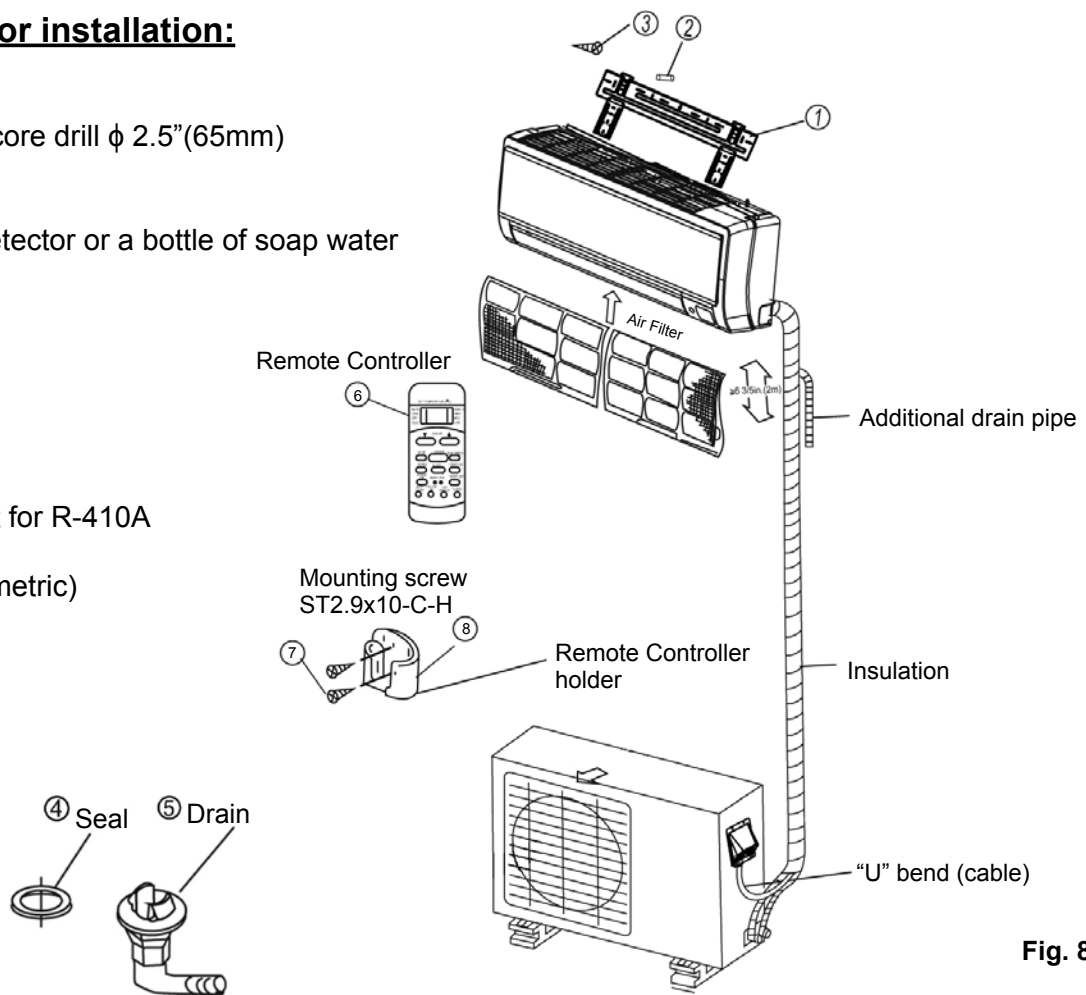

Fig. 8
- During heating and defrost modes (heat pump models only), the condensate should be properly drained away from the unit. Use the included drain joint and seal along with locally purchased hose to do so. (Fig. 8)